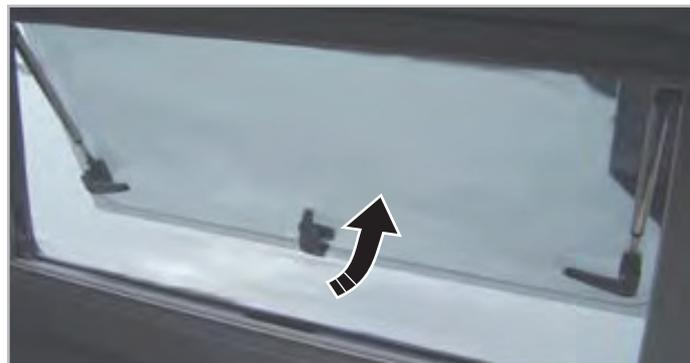

Fig.6.3 - Opening the windows
3. Open the window by pushing it from the centre until it reaches the desired position (Fig.6.3); the window will automatically remain locked.